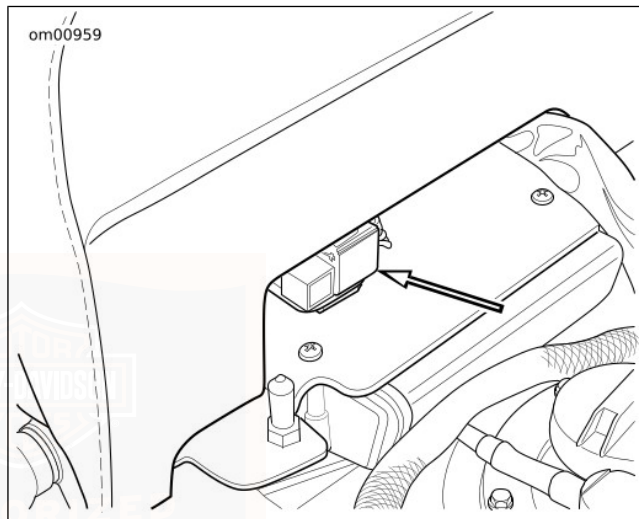

Figure 60. Rear Fuse Block Location
3. See Figure 60. The rear fuse block is on the frame crossmember behind fuel filler cap. Slide the fuse block to the left side to remove from mount.